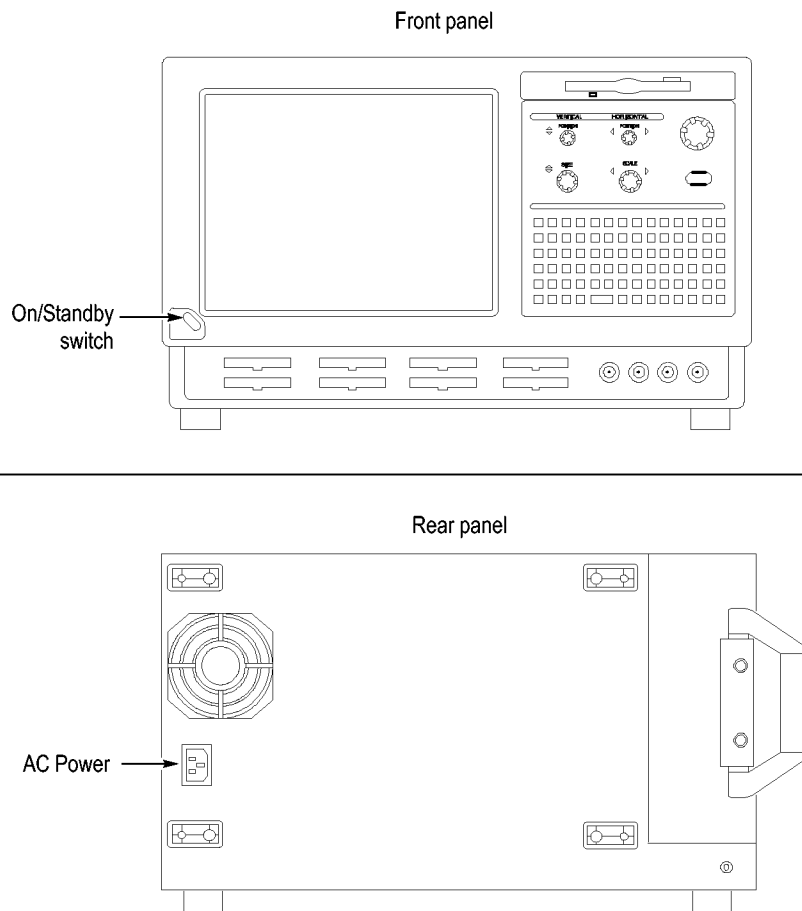

Figure 4: Power cord connector location
1. Connect the power cord. (See Figure 4.)
- a. Press the On/Standby switch on the front of the instrument to turn on the logic analyzer. (See Figure 4.)